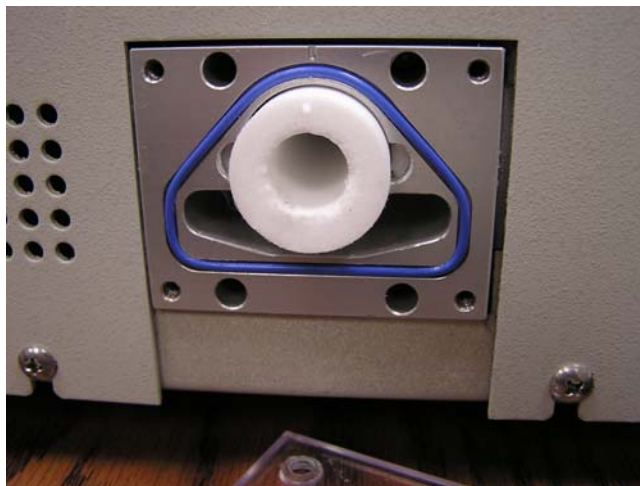

Figure 8-11
- 7.** To install a wick back into the saturator, insert the wick into the saturator block, orienting it as shown in Figure 8-11 with the metal orientation pin at the side of the wick positioned in the notch to the right.